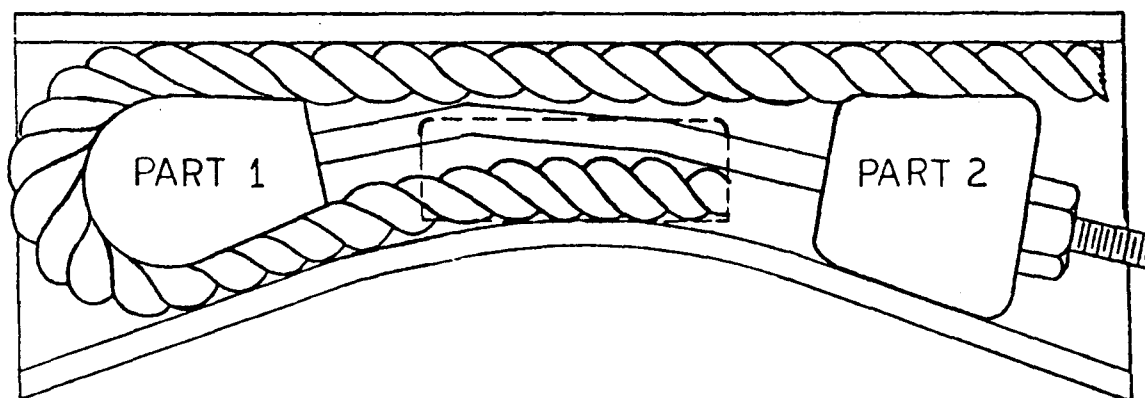
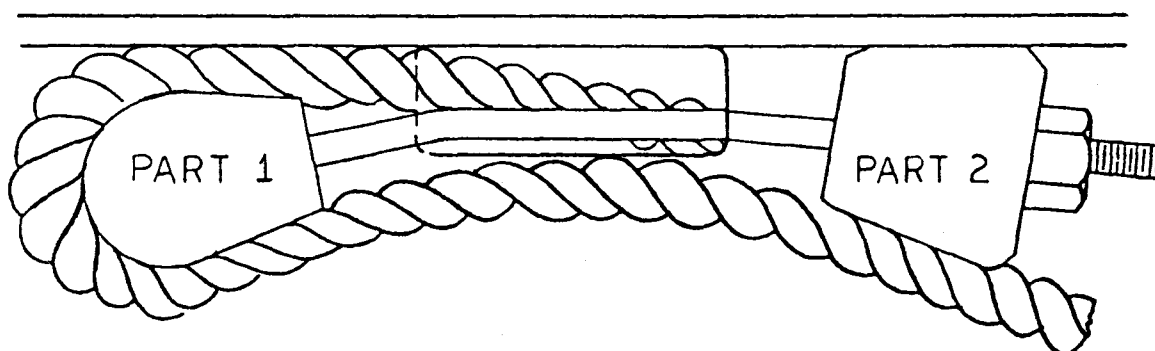

FIGURE 3-6
FIGURE 3-7
If bottom of the cable hole is flush with the bottom of the cable pocket, refer to Figure 3-6 for installed configuration. If the top of the cable hole is flush with the top of the cable pocket, refer to Figure 3-7 for installed configuration.
4. Place Part 1 of the cable wedge into the kink and pull cable and wedge into cable pocket as shown in Figure 3-6. Drive cable and wedge into pocket by hitting at point "A" until wedge no longer moves into pocket.
6. Place Part 2 of the cable wedge onto shaft as shown in Figure 3-6 and install self-locking nut. Tighten nut to clamp free end of cable and draw wedges together.